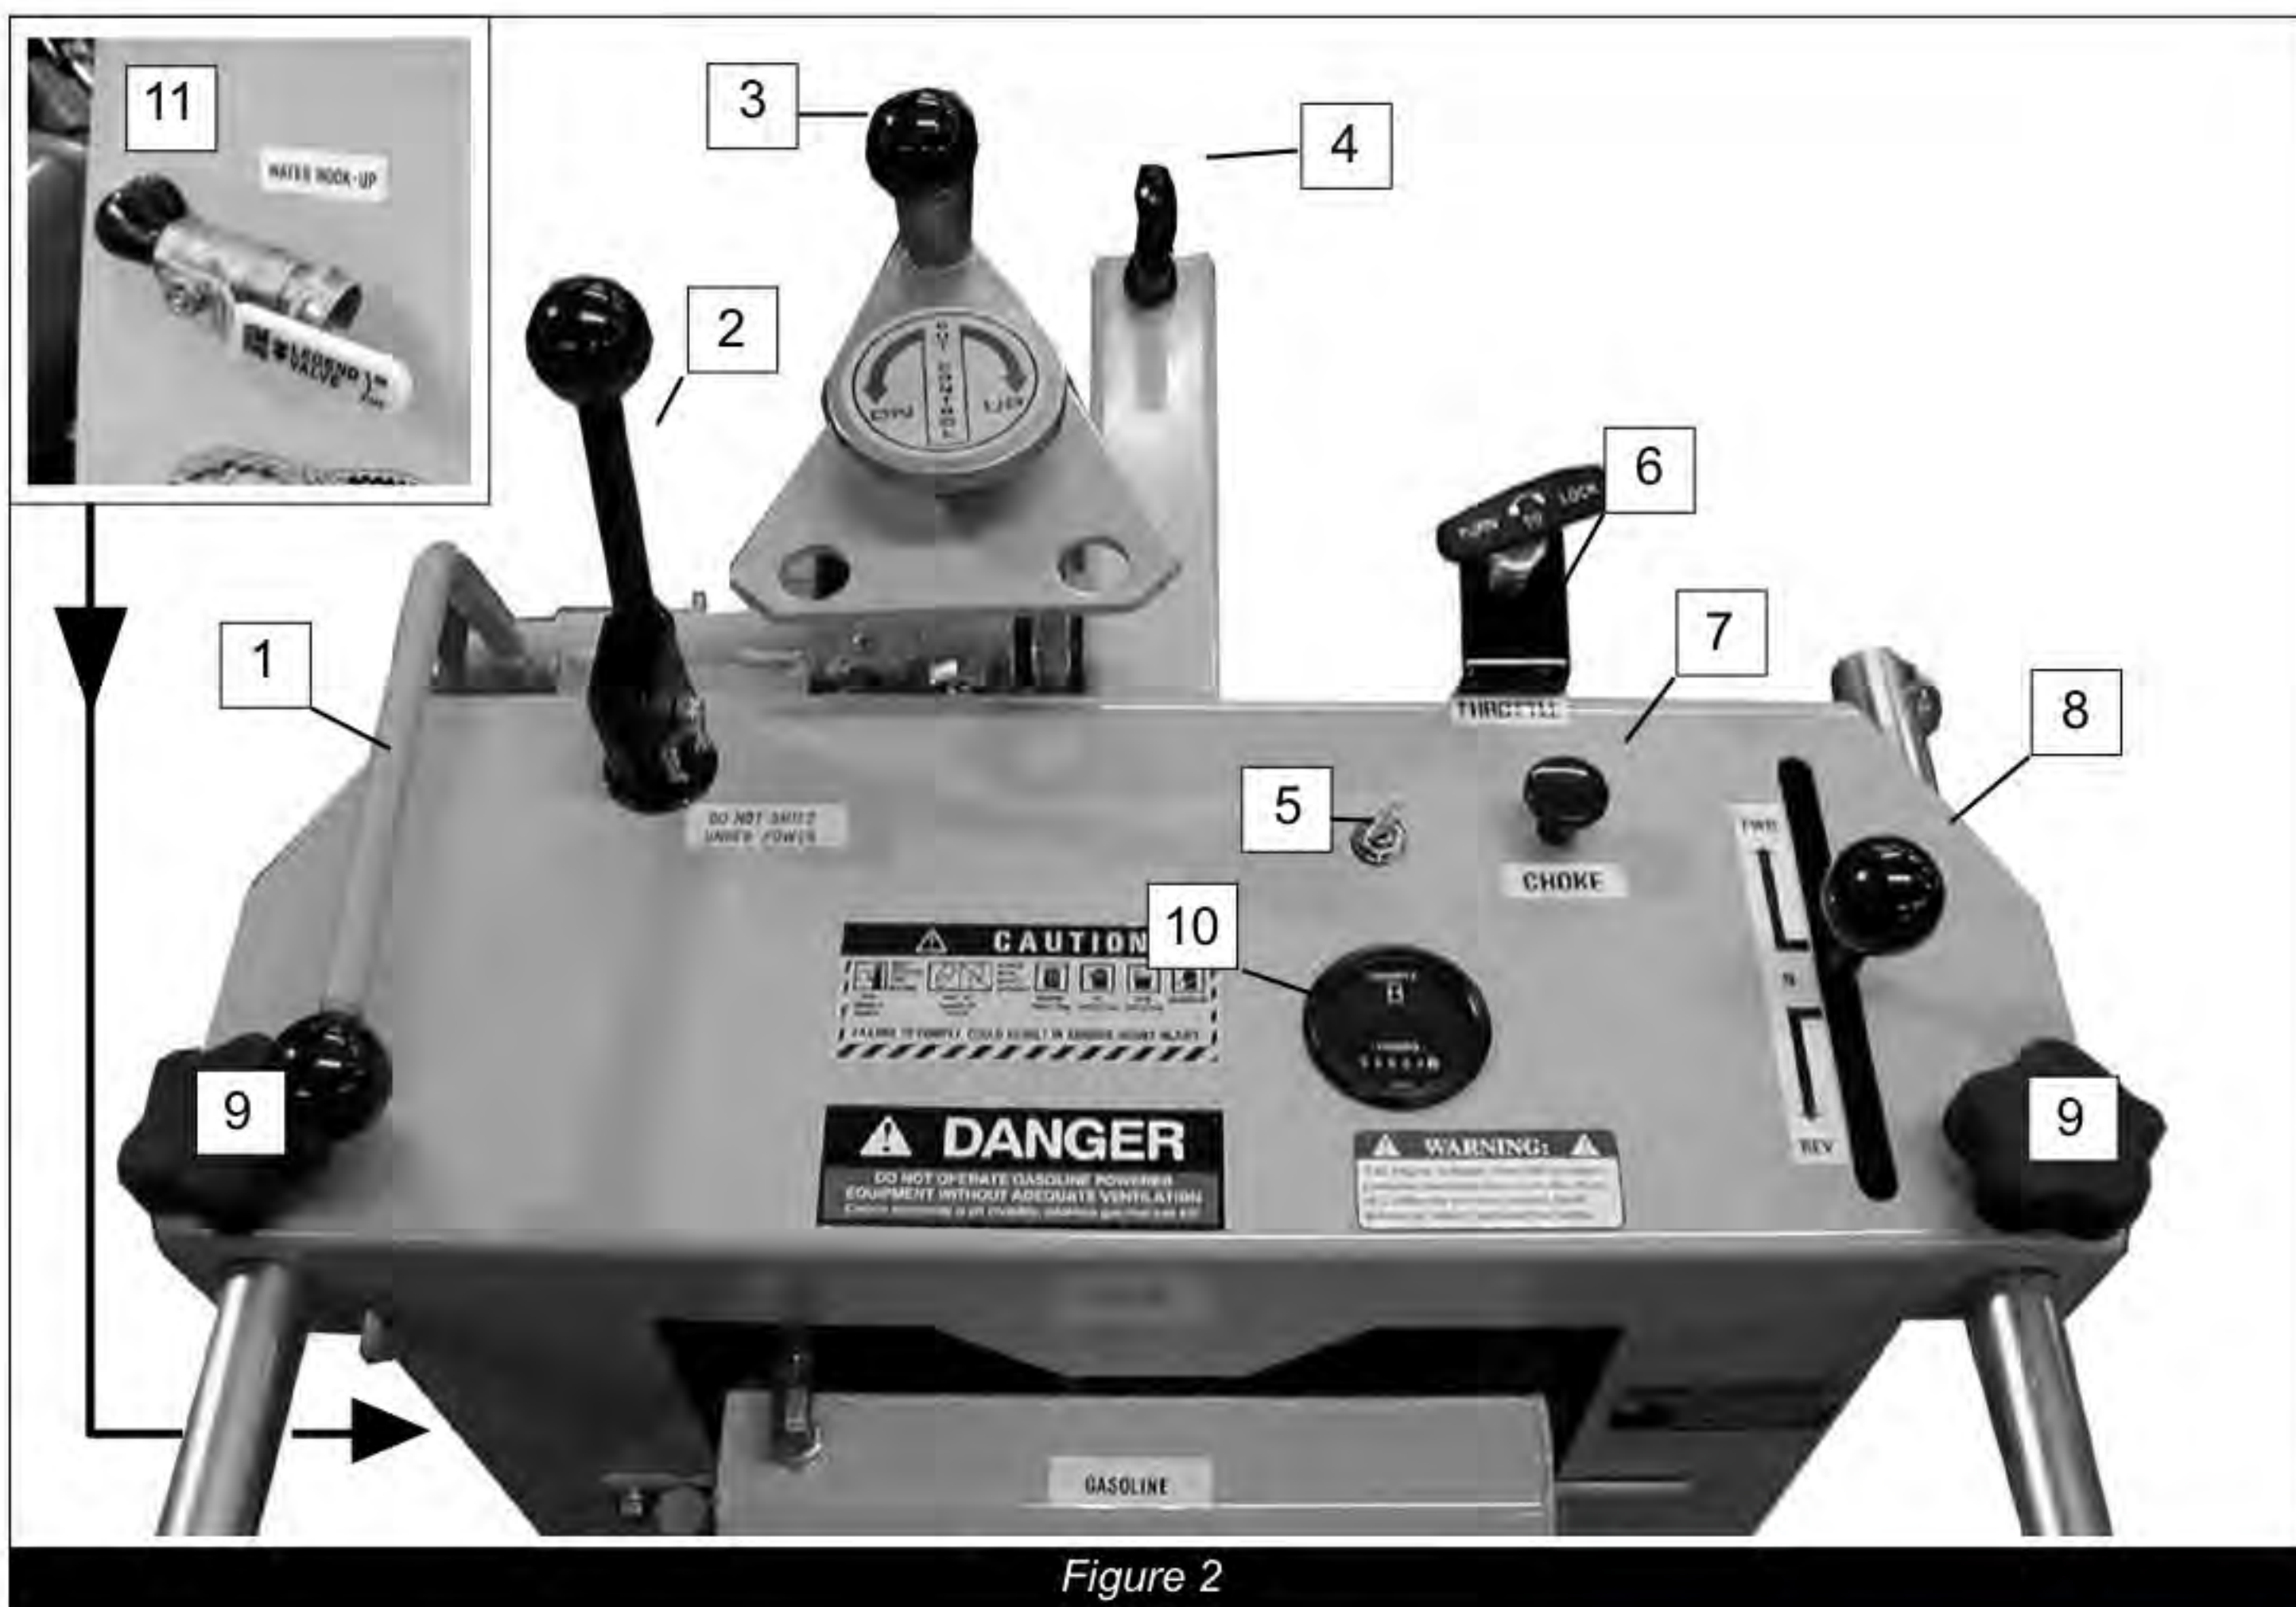

Figure 2
- Locate and be familiar with all engine/motor and operating controls (*Figures 2*).
- Adjust the handles for operator comfort and safe operation. Be sure to retighten knobs. (Figure 2, Item 9)
- Raise the cutter head to the full "up" position using the cutter head lever on the console. (Figure 2, item 1)
- Move the machine into operating position by disengaging the clutch (Figure 2, item 2). Lower clutch lever when unit is in position.
- Slowly lower the cutter head to the slab surface with the cutter head lever. (Figure 2, Item 1)
- The drive control lever (Figure 2, Item 8) provides variable ground speed in both forward or reverse directions. The lever is spring loaded and returns to neutral when released. Ground speed is increased by moving the lever forward away from the neutral position. Depth of cut and hardness of material will determine the most efficient cutting speed. Deep cutting requires slower forward speeds, allow engine to run at full RPM during the cutting operation.